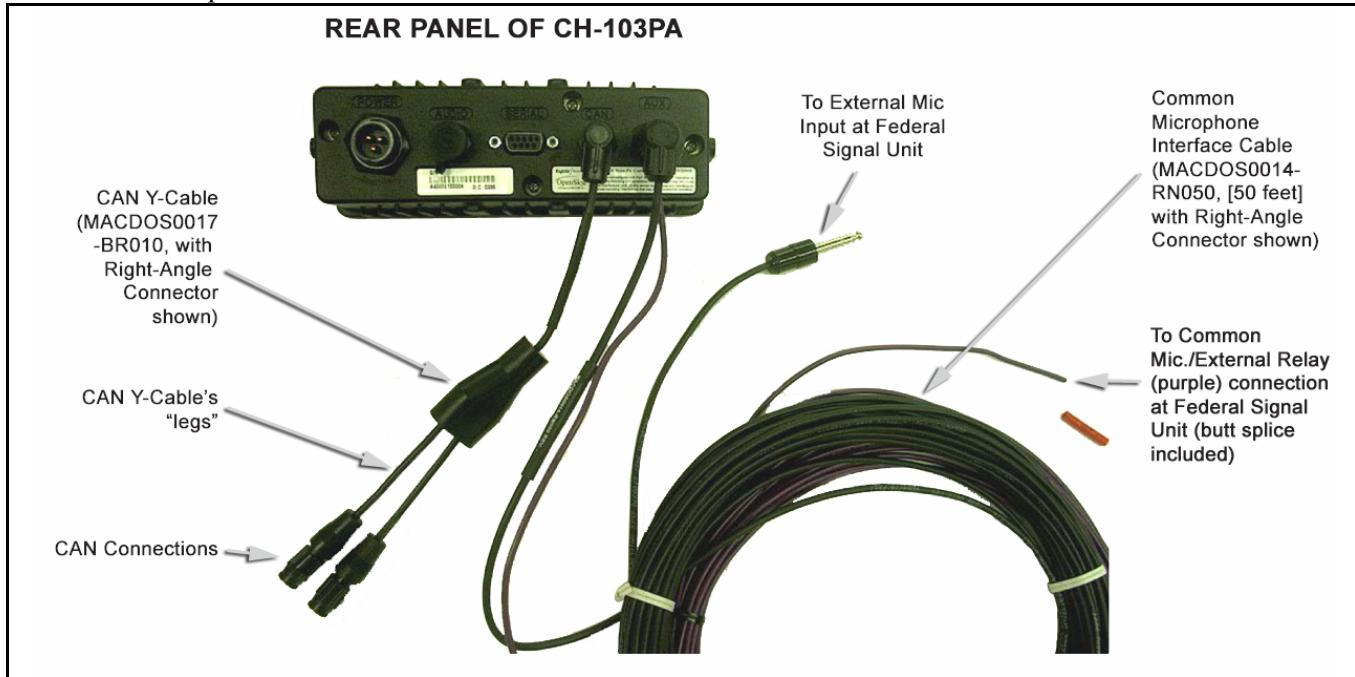

Figure 9-3: CH-103PA CAN Y-Cable and Common Microphone Interface Connections
Connect the plug (male) connector of the CAN Y-cable to the rear of the CH-103PA and connect the CAN Terminator (Item 3 in Table 4-3) to one leg of the Y-cable. See Figure 9-3. See Table 4-4 for CAN Y-cable part numbers.
1. Connect the 4-pin connector of the Common Microphone Interface Cable (part number MACDOS0014-RN050 for right-angle connector or MACDOS0014-NN050 for straight) to the "AUX" connector on the back of the CH-103PA. See Figure 9-3. Visually align the $\frac{3}{4}$ -moon-shaped keys of the connectors, and then push and turn the outer locking ring of the cable connector clockwise until it stops. A mild click will be sensed to confirm proper mating.